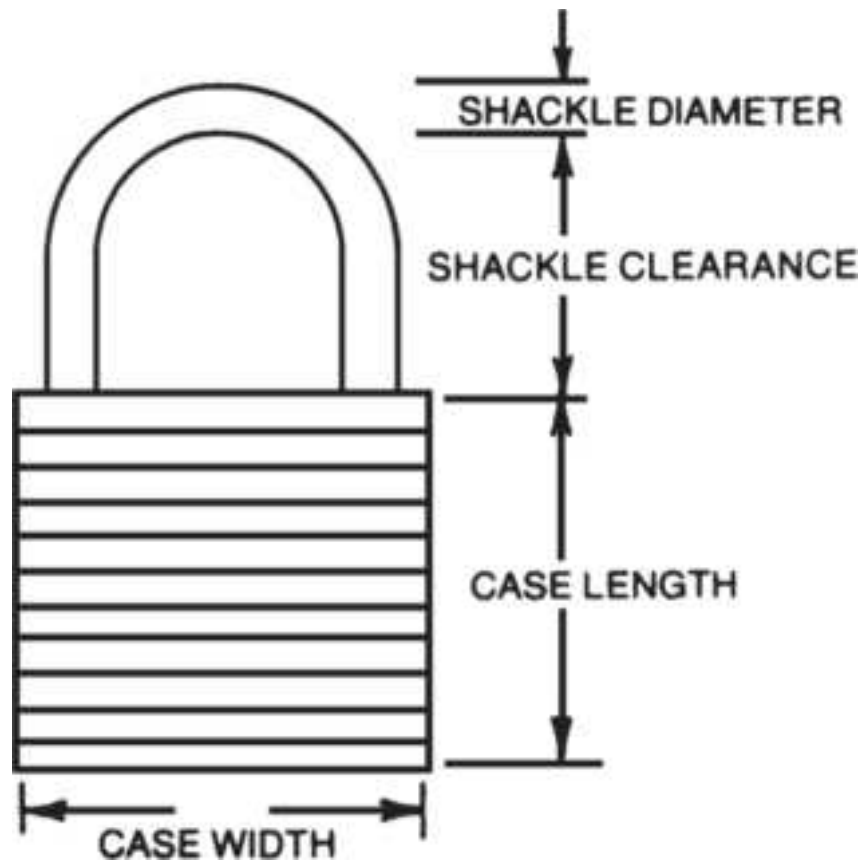

**Figure 12.1** Padlock nomenclature.
- Are width, case length, and shackle clearance crucial (Fig. 12.1)?